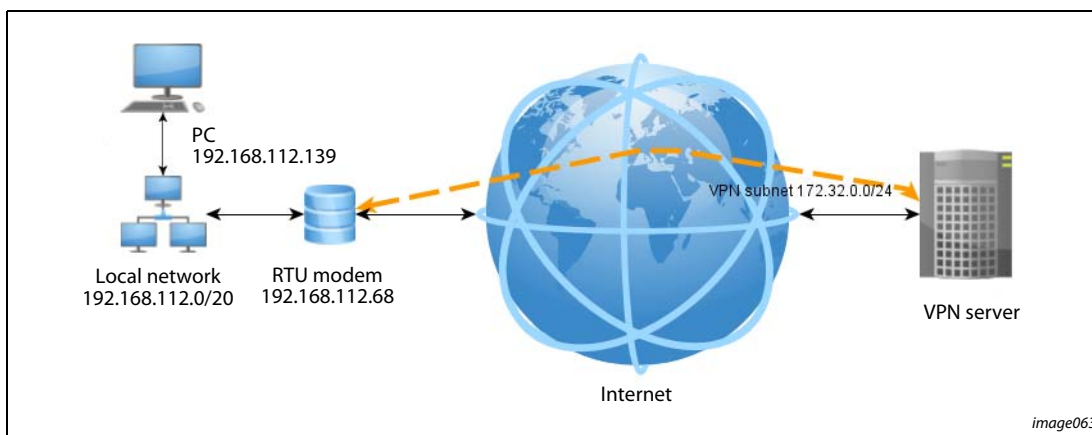

Fig. 12-3: System configuration example
- ① Open server.ovpn with text editor, located in "C:\Program Files\OpenVPN\config" and add the following lines (refer to Figure 12-3 for the meaning of IP addresses):